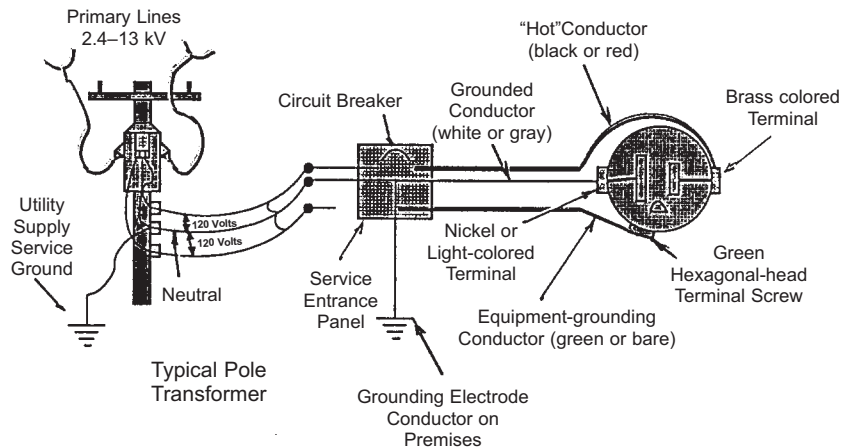

Figure 4
Discussion of wiring methods must be preceded by an understanding of terms used to define each specific conductor in a typical 120/240 volt AC system. Refer to Figure 4 for an example of most of the following definitions. The National Electrical Code (NEC) is used as the reference source.
**Branch Circuit.** The electrical conductors between the final overcurrent device (the service entrance panel (SEP) in Figure 4) protecting the circuit and the receptacle. The wiring from the SEP to the pole mounted transformer is called the “service.”
**Equipment.** A general term for material, fittings, devices, appliances, fixtures, apparatus and the like used as a part of, or in connection with, an electrical installation. In Figure 4, the SEP and any associated conduit and junction boxes would be considered equipment.
**Feeder.** The term given to the circuit conductors between the SEP and the final branch circuit overcurrent device. In Figure 4 there is no feeder since the SEP is also the final branch circuit overcurrent device.
**Grounded Conductor.** The conductor in the branch circuit wiring that is intentionally grounded in the SEP. This conductor is illustrated in Figure 4. From the SEP to the transformer the same electrical path is referred to as the neutral. From the final overcurrent device to the receptacle the conductor is referred to as the grounded conductor.
**Grounding Electrode Conductor.** Used to connect the grounding electrode to the equipment grounding conductor and/or to the grounded conductor of the circuit at the service equipment or at the source of a separately derived system (see Figure 4).
The NEC requires the design and installation of electrical wiring to be consistent throughout the facility. To accomplish this, it is necessary to follow NEC requirements. For 120 volt grounding-type receptacles, the following wiring connections are required (see Figure 4).